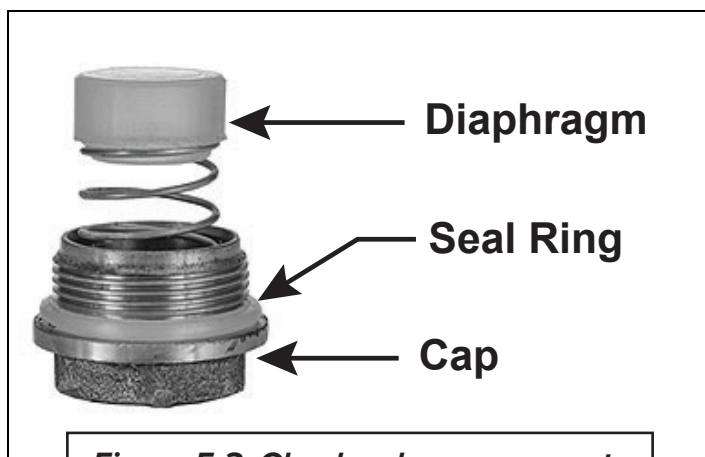

Figure 5-3: Check valve components
5. Inspect seal ring and diaphragm (see Figure 5-3) for damage or dirt.